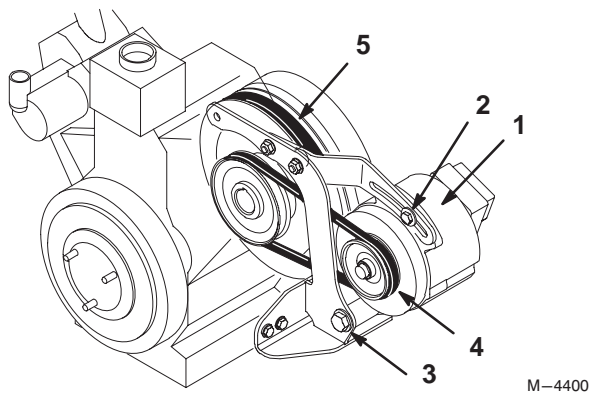

Figure 71
3. Loosen both upper and lower alternator bolts to allow alternator to rotate and loosen belt (Fig 71).
4. Remove belt from pulley, alternator and over clutch pulley (Fig 71).
6. Rotate alternator out away from engine and tighten lower and upper alternator bolts (Fig 71).